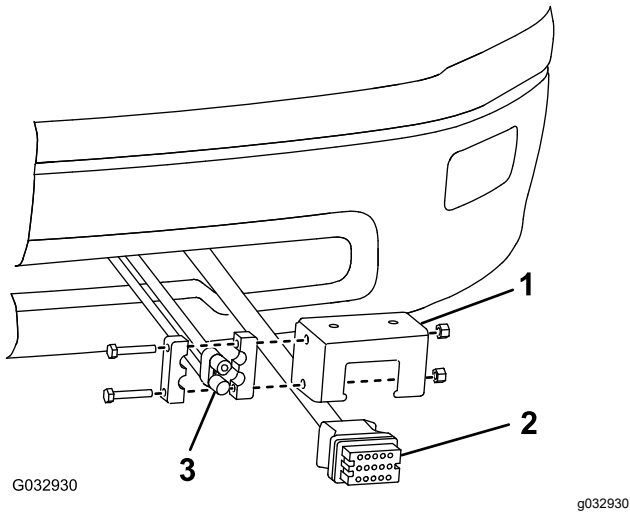

Figure 4
18. Mount the truck side, wire harness plow connector to the lower part of the bumper using the control harness mounting bracket (Figure 4).
1. Clips (8)
19. Mount the black and red power/ground connector to the control harness mounting bracket (Figure 4).